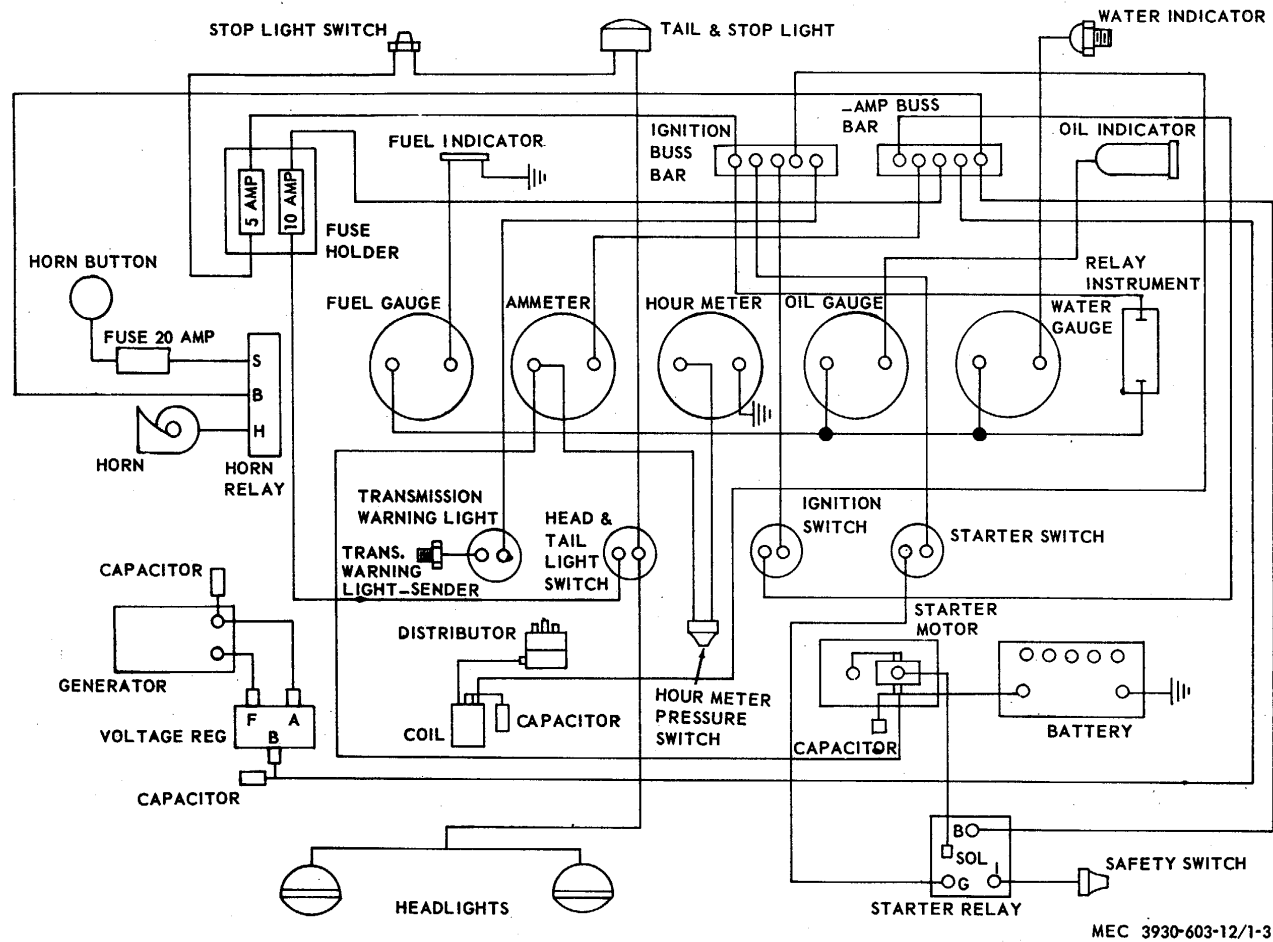

Figure 1-3. Schematic wiring diagram, Model Jg-40PT4 Tractor
k. Wiring Diagram. Refer to figure 1-3 for the tractor electrical schematic wiring diagram.